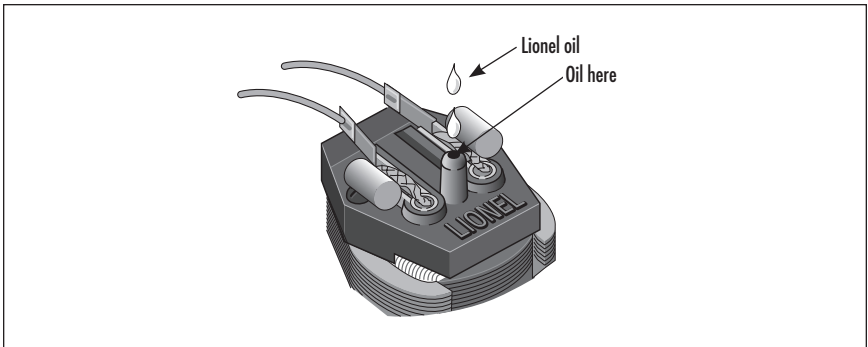

Figure 4. Pullmor motor lubrication
The motor requires occasional lubrication with a few drops of light machine oil. See Figure 4 on page 9. To get at the motor the locomotive body must first be removed by removing the screws from the underside of the frame at both ends of the powered locomotive.
2. Apply a small amount of Lionel oil (two drops) in the hole at the top of the motor. See Figure 4.